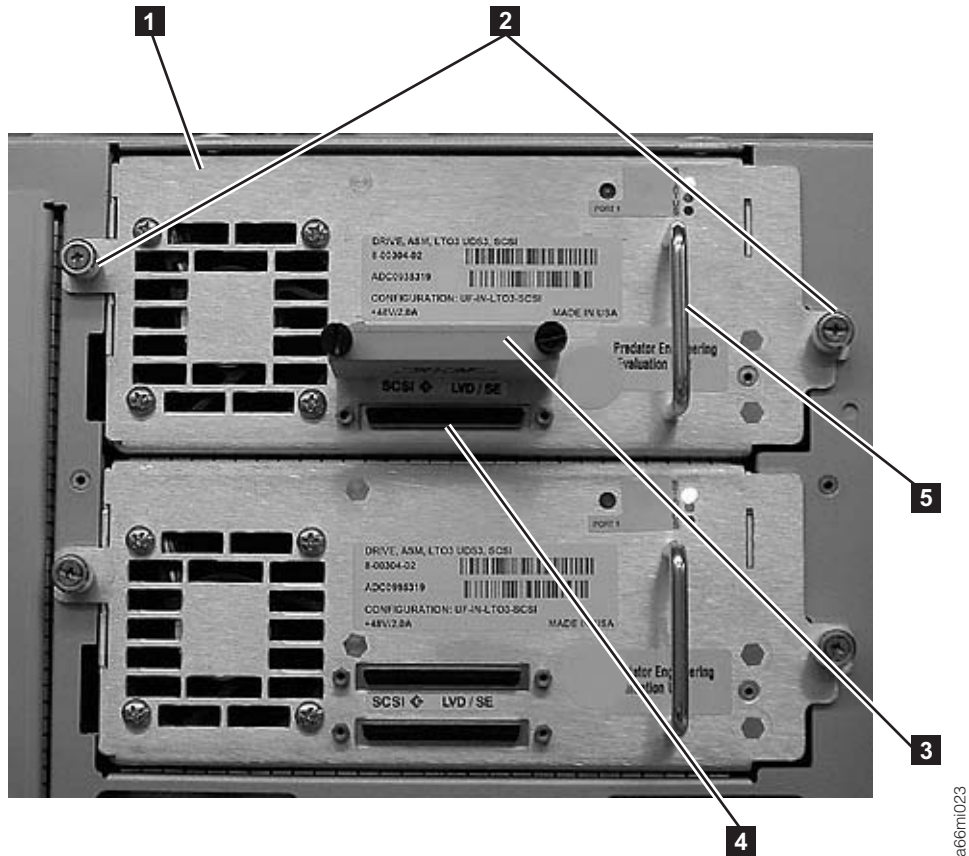

Figure 11-5. Control Module with two Drive Sleds
- b. When the drive sled is in place (**1** in Figure 11-5 on page 11-8), tighten the thumb screws (**2** in Figure 11-5 on page 11-8) by turning them clockwise to secure the drive to the module.
- c. Connect the host interface cables to the drive. In the example configuration shown in Figure 11-5, the bottommost SCSI connector (**4** in Figure 11-5) is being used to link the module to the host and the SCSI bus terminator is plugged in to the topmost connector (**3** in Figure 11-5).
2. Tighten the two thumb screws (**2** in Figure 11-5 on page 11-8) that hold the drive in place by turning them clockwise.